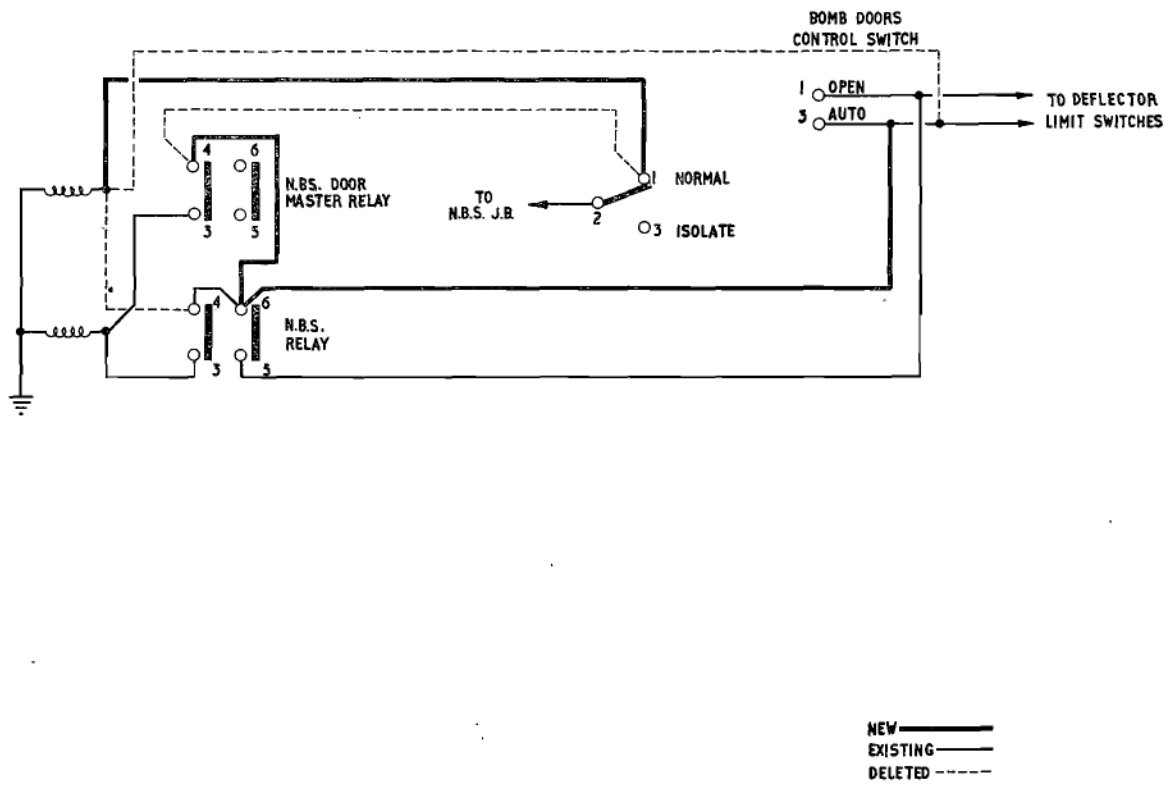

Fig. 1. Alteration to Figs. 4 and 5 (post Mod. 3171)
3. Fig. 1 of this appendix shows the alterations to the circuit Post Mod. 3171.